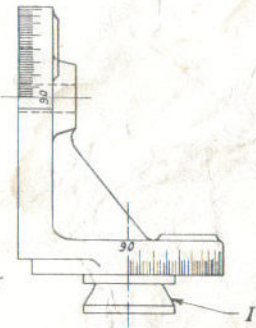

FIG. 2
- 3RD. MOUNT THE COMPLETE ATTACHMENT ON THE COMPOUND REST BASE AS SHOWN IN FIG. 2. MOUNT THE LARGE FACE PLATE ON SPINDLE NOSE AS SHOWN AT "A" IN FIG. 2.